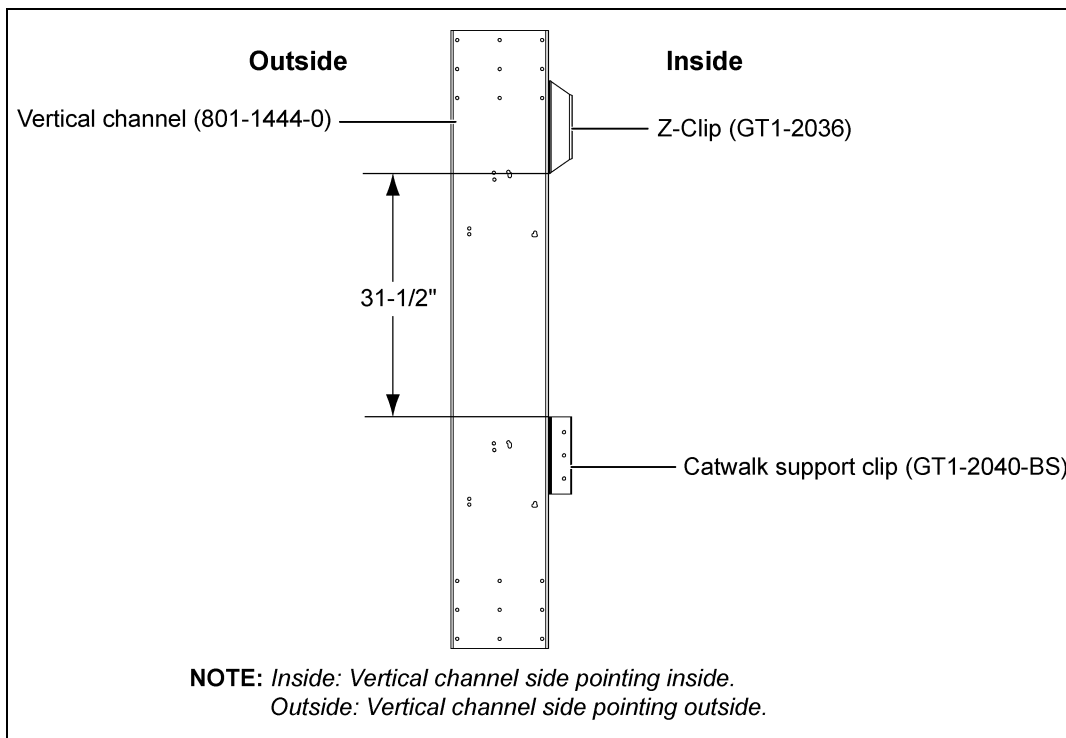

Figure 5C
2. The distance between the Z-clip and support clip for 23'-4" inside catwalk is 31-1/2". (See Figure 5C.)